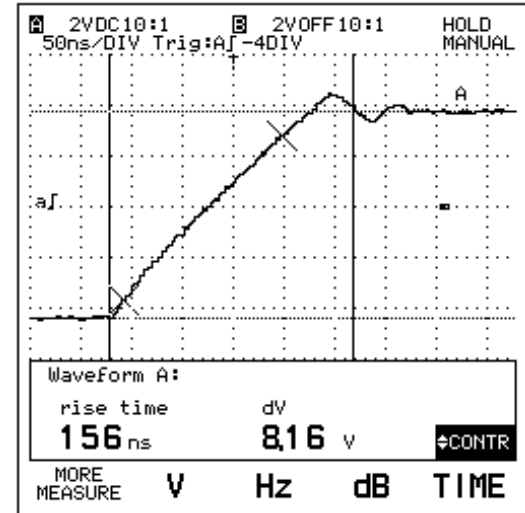

Figure 7-14. Rise Time Measurement (with markers)
- ⑦  Set the left cursor to the low level of the waveform: see Figure 7-14. This is the 0% reference point.
- ⑧  Set the right cursor to the high level of the waveform: see Figure 7-14. This is the 100% reference point.
- ⑨ The test tool instantly displays the rise time: "156 ns". (See Figure 7-14.)